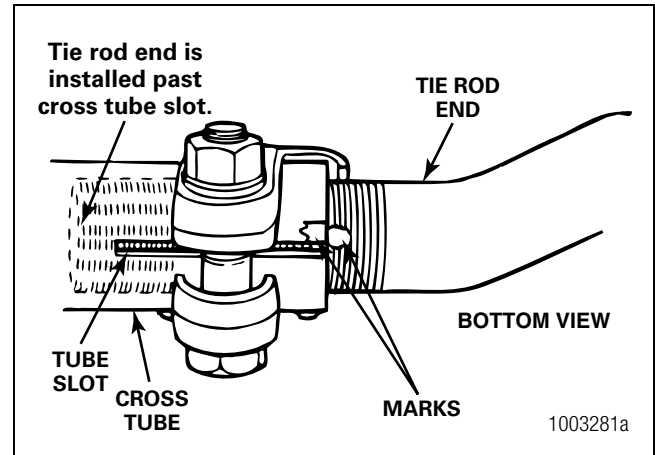

Figure 6.40
4. If removed, install the tie rod ends into the cross tube to the position marked during removal. Figure 6.40. Thread the ends equally into the cross tube to the required length. The threaded portion of the tie rod end must be installed into the cross tube beyond the end of the slot.